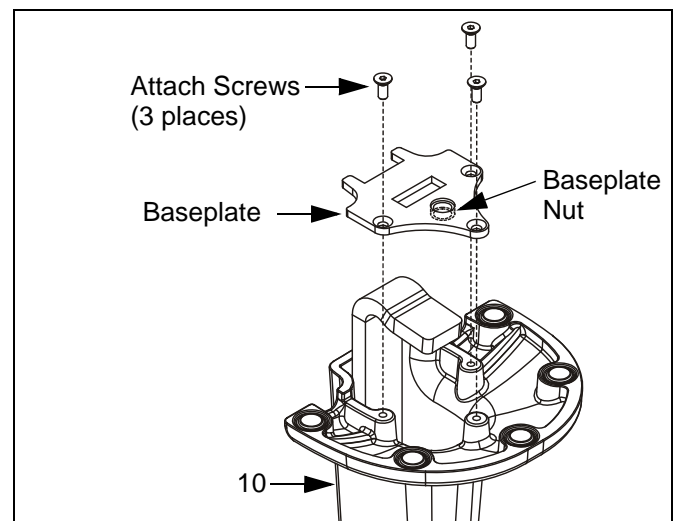

Figure 6: Baseplate
- Using 2.5mm hex key, remove and retain baseplate and three attach screws from bottom of mount (10) (See Figure 6).
3. Using 2.5mm hex key, re-install baseplate with three retained attach screws. Ensure baseplate nut faces *interior* of mount (See Figure 6). Tighten securely.